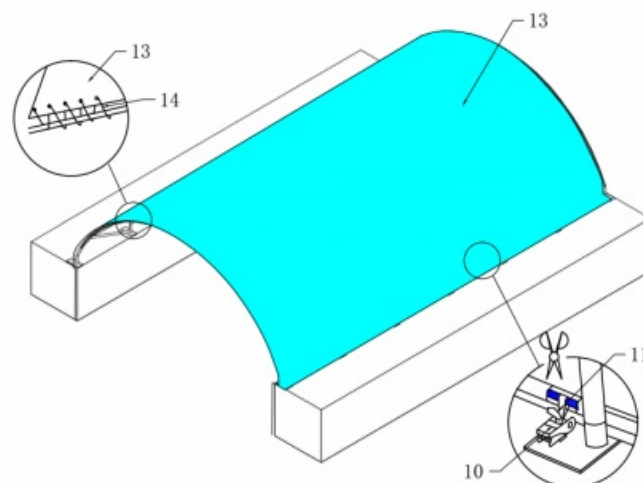

Figure 14
3. Cut some pockets over the Rachet (No.10) on the base plates and use Tensioning Straps (NO. 11 to tie down the tensioning tube(No.16) like the Figure 14. Finally, install the Plastic Plug (NO.15) for the base rail section into two ends of the tension tubes. Finally knit them using rope as the figure above.